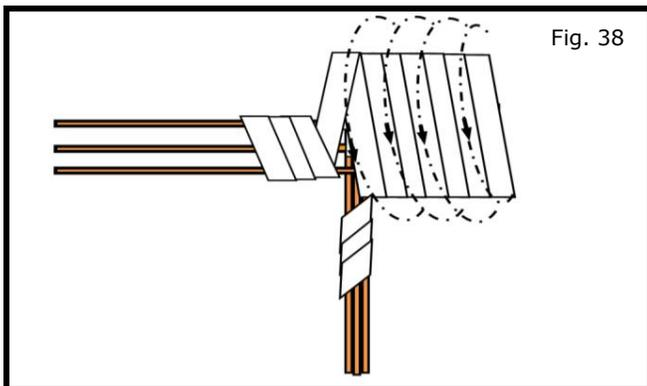

Fig. 38
a) Make sure the finished wrap looks similar to Fig. 38.